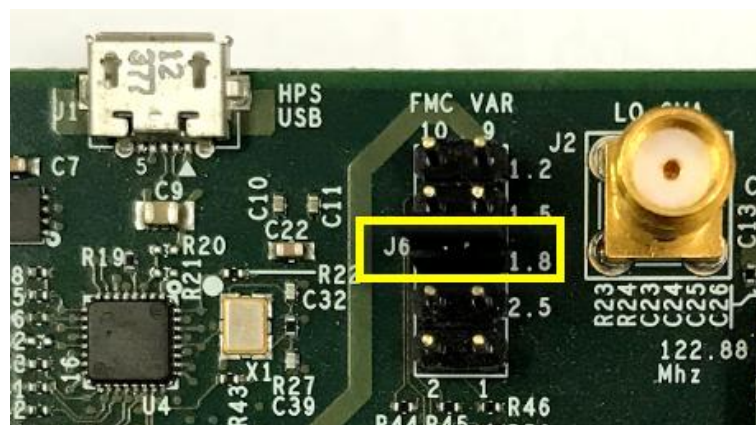

Figure 4-7 Select 1.8V on J6 FMC VAR
3. Make sure the FMC VAR J6 is set to 1.8V as shown in **Figure 4-7**.